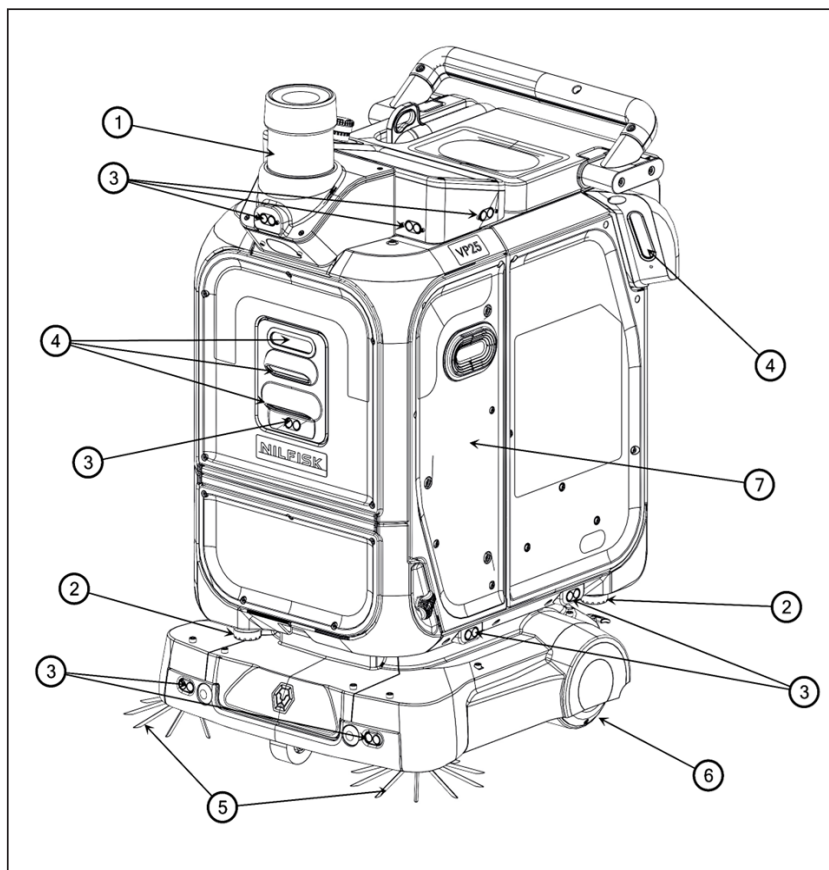

Figure 1
- 2D LiDAR Sensors **(2)** or one 3D sensor **(1)** (**Fig. 1**) depending on your model – provides detection of obstacles and surroundings in front, back and to the sides of the machine.
- Depth Camera **(4)** (**Fig. 1**) – provides a three-dimensional depth point cloud of the area in front and to the sides of the machine.
- Sonar Sensors **(3)** (**Fig. 1**) – located at the front, back and sides of the machine – aids in collision prevention and presence detection around the machine.